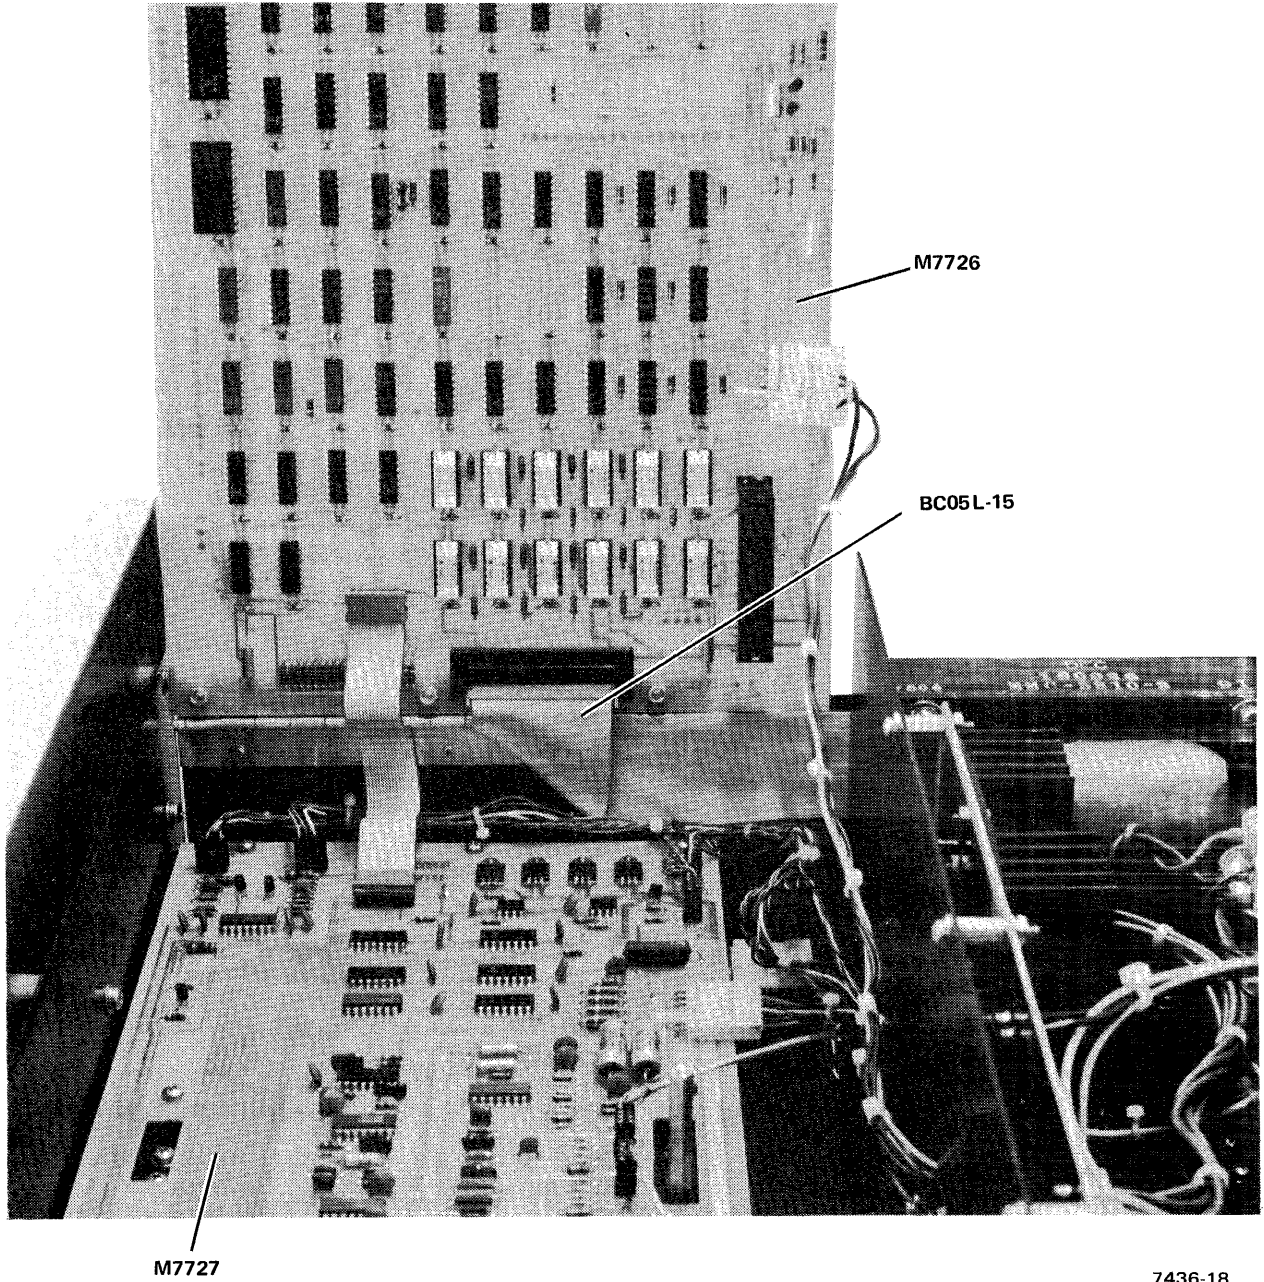

Figure 2-6 Cable Routing, BC05L-15
4. Connect the BC05L-15 cable to the M7726 module and route it through the back of the RX01 (Figure 2-6) to the CPU, then connect it to the interface module (RX8E, M8357; RX11, M7846).